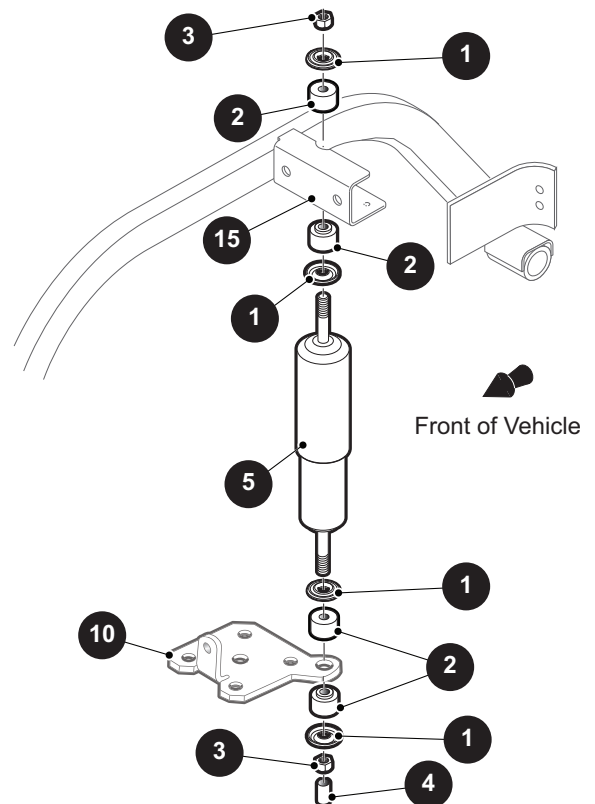

Fig. 1 Shock Absorber
2. Remove the vinyl cap (4), hex nut (3), washer (1), and rubber bushing (2) from the lower end of the shock absorber (5) (Ref Fig. 1).
4. Compress the shock absorber and remove it from between the frame mounting bracket (15) and the lower mounting plate (10).
1. Install a washer (1) with the cupped surface facing upward and the rubber bushing (2) on the top stud of the shock absorber (5) (Ref Fig. 1).
3. Insert the top stud into the mounting hole on the frame bracket (15) and compress the shock absorber until the bottom stud can be installed into the lower mounting plate (10).
5. Install the hex nut (3) and tighten it until the rubber bushing expands to the same diameter as the washer.